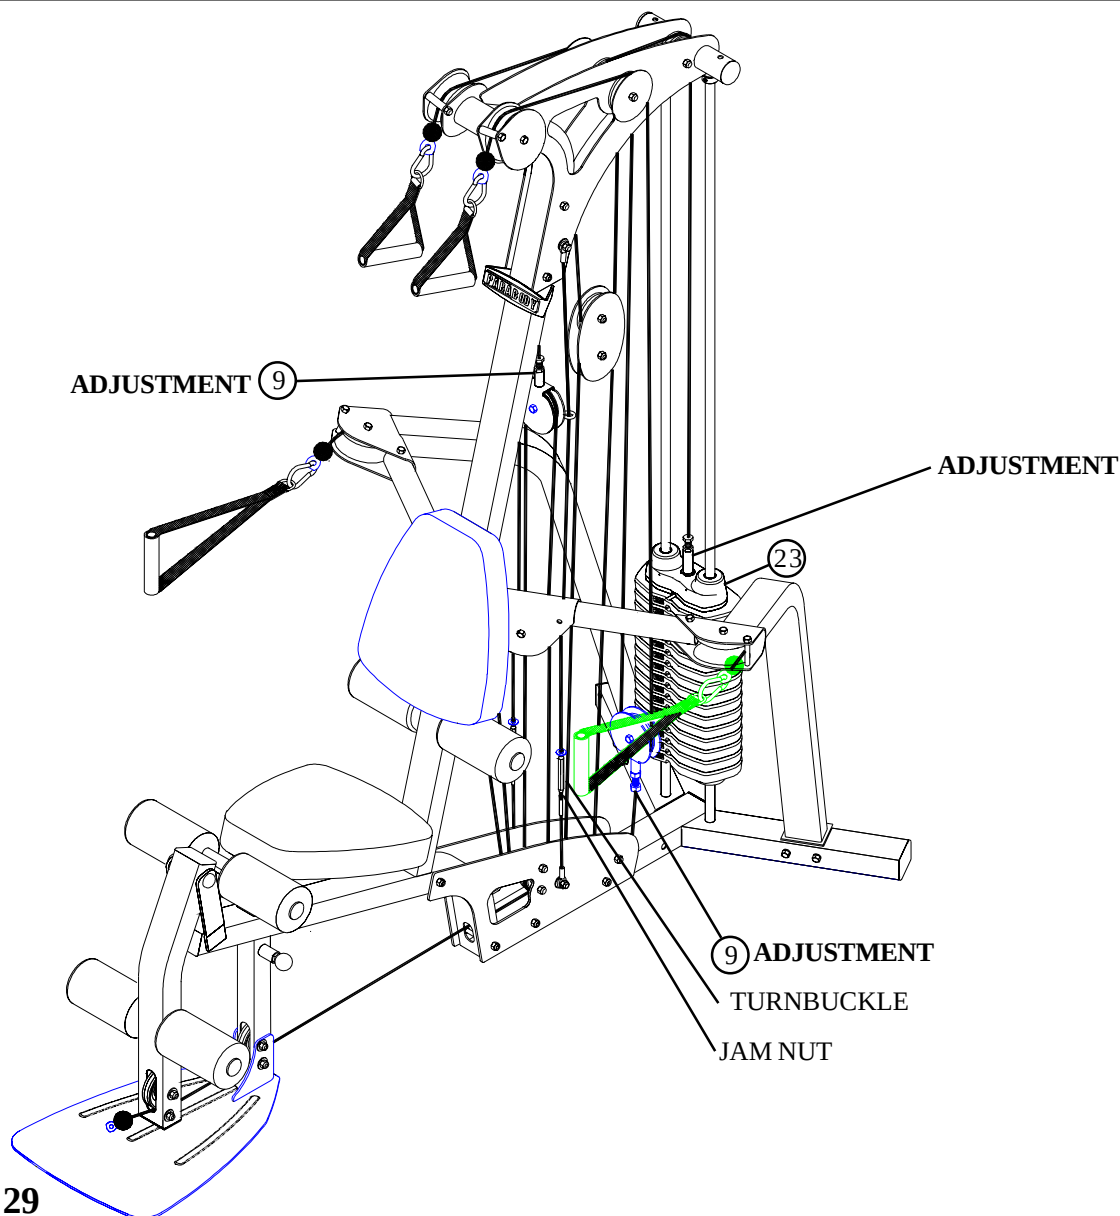

FIGURE 29
- Adjust the turnbuckle on each GUIDE CABLE (71) to add tension to the GUIDE CABLES (71). Secure turnbuckle with the JAM NUTS as shown in FIGURE 29.
- If upon completion of assembly, the HEAD PLATE (23) does not sit on top of the first WEIGHT PLATE (21), push the HEAD PLATE (23) down, insert the WEIGHT STACK PIN (27) and perform several repetitions. This will relax the cable system and prevent the HEAD PLATE (23) from lifting up. See FIGURE 29
- If after completing the previous step, the HEAD PLATE (23) still does not sit on top of the first WEIGHT PLATE (21) or if there is excess slack in the cable system, adjust the threaded ends of the CABLES attached to the PULLEY BRACKETS (9) accordingly and retighten the jam nuts. See figure 29.
- For maximum performance, the HEAD PLATE (23) should just barely sit on the top WEIGHT PLATE (21).